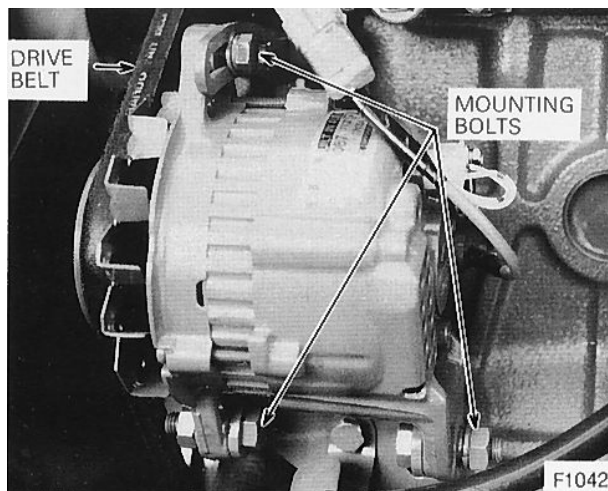

Figure 64 - Alternator Mounting Bolts
1. Loosen the alternator mounting bolts, Figure 64.